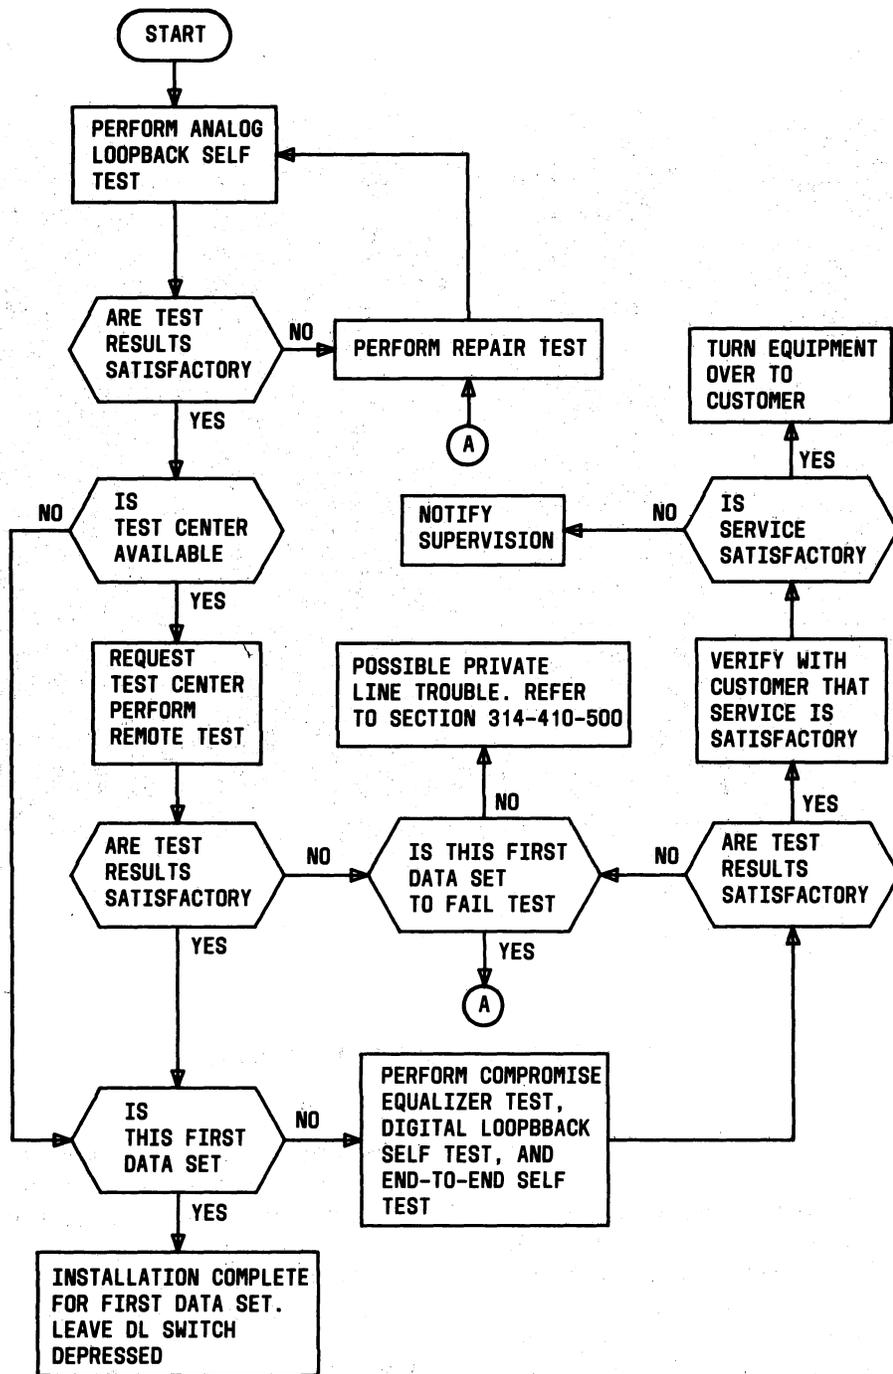

Fig. 2—Installation Test Sequence
2.02 Refer to Fig. 2 for the sequence of tests to be performed and to Part 4 for the test procedures.